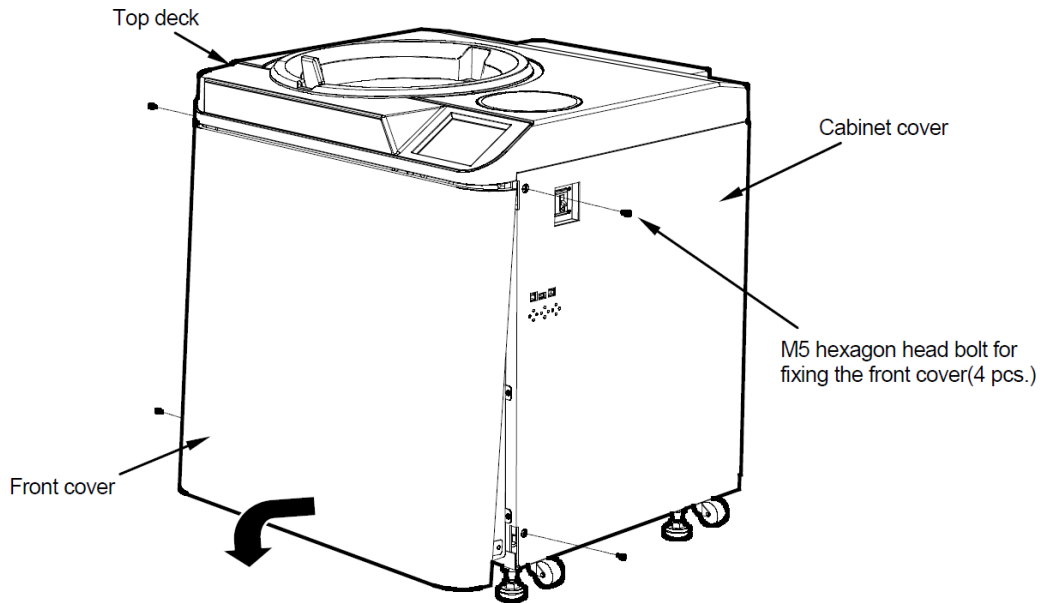

Figure 32: Removing the front cover
4. Open the air vent (by turning the vacuum release screw on the left of the vacuum chamber counterclockwise) to let air into the rotor chamber. When the pressure in the rotor chamber reaches atmospheric pressure, make sure to remember to tighten the vacuum release screw as it was before (see Figure 32 Ultracentrifuge with the front cover removed.)